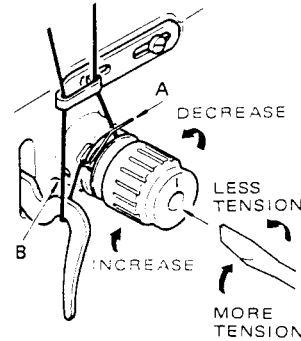

Fig. 32
- Using a large screwdriver in slot of tension stud, turn stud either over toward left to decrease tension, or over to right to increase tension as shown in Fig. 32.
- To set the take-up spring height, loosen screw **B**, Fig. 32, and turn entire tension assembly either over toward left to lower take-up spring and decrease its movement, or over toward right to raise take-up spring and increase its movement. Firmly tighten screw **B**.